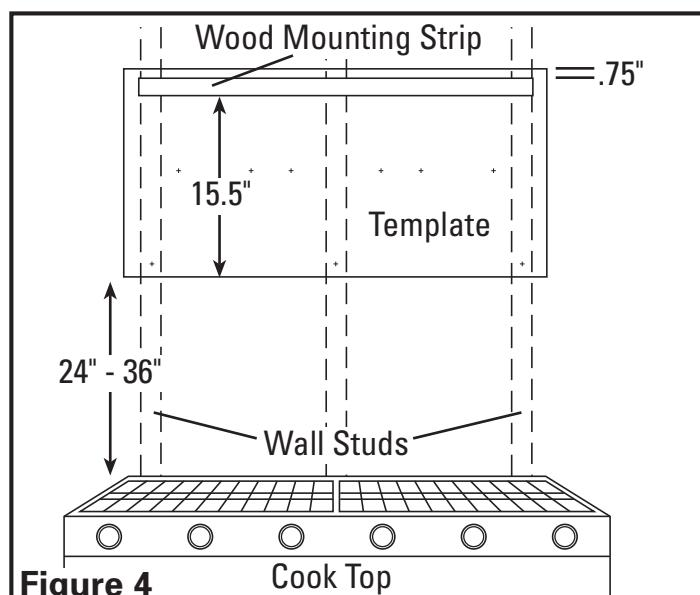

Figure 4
1. Determine where the top of the hood will be located within your installation and tape the included wall mounting template in place (**Figure 4**).